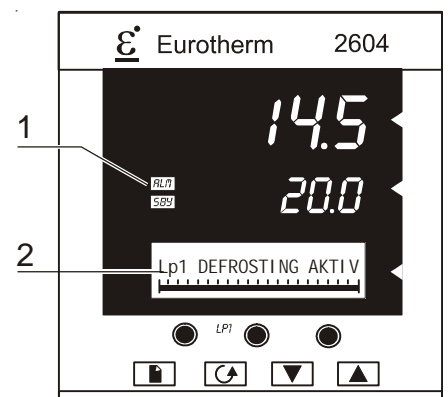

Abb. 31,
**Fig. 31:** Defrosting is performed in cyclic intervals of several hours during continuous operation. After the device has been switched on, the initial defrosting occurs already after approx 65 minutes. For the duration of a defrosting routine, the message section of the display [2] shows the message DEFROSTING ACTIVE. The defrosting routine is activated and controlled by the refrigeration system control. The defrosting routine cannot be cancelled or interrupted by an input via the control but only by:
**Fig. 31:** When an alarm occurs, the red indicator ALM [1] flashes. The message display [2] shows the failure source (e.g. temperature, humidity) and a description of the alarm.